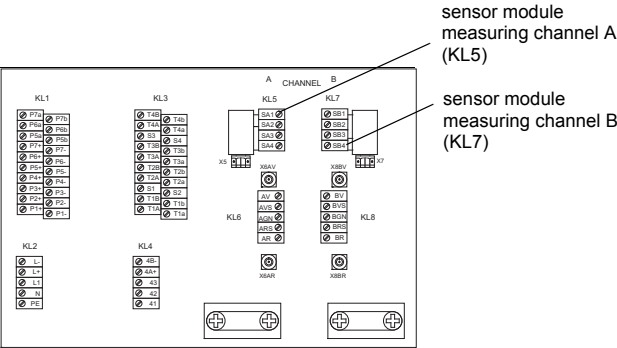

Fig. 6.13: Connection of the sensor module (SENSPROM)
- If the transducer cable has a 4-pole connector, connect it with socket X5 (terminal strip KL5) or X7 (terminal strip KL7) (see Fig. 6.13).
- Alternatively, connect the sensor module to the terminals of terminal strip KL5 or KL7 (see Fig. 6.13).
- If the length of pre-assembled cables is reduced, it is not necessary to use the 4-pole connector. The data cables can be connected directly to the terminals of terminal strip KL5 or KL7 (see Fig. 6.13 and Table 6.16).